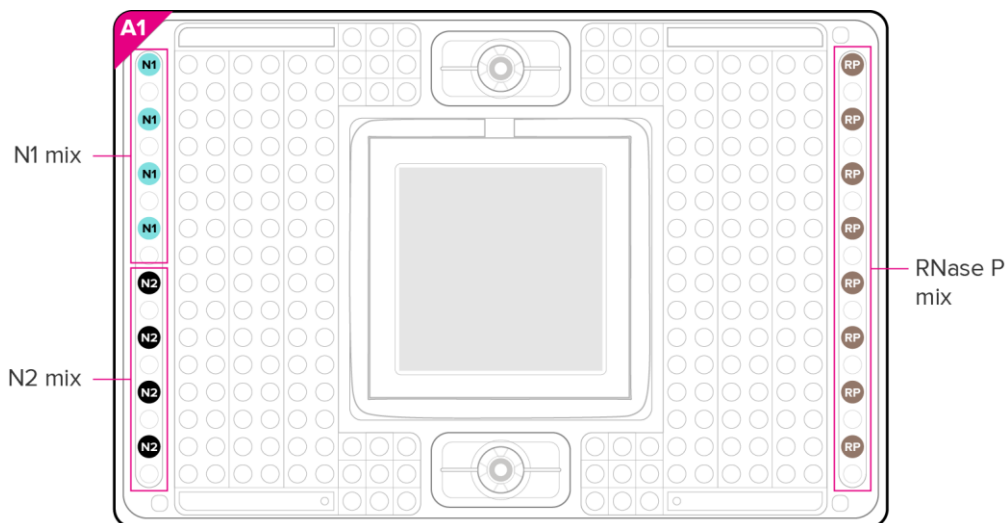

Figure 8. Pipetting map for PCR mixes
- 2 Pipet 5 μL of each PCR mix (N1, N2, RP) as shown in Figure 8: N1 and N2 each into 4 inlets on the left side of the IFC and RNase P into 8 inlets on the right side of the IFC.